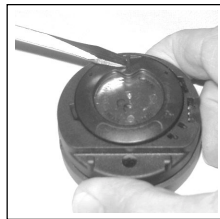

Fig. 64 - RING REMOVAL
- While applying steady inward pressure on the center of the Battery Hatch, rotate the Hatch Retaining Ring 10 degrees clockwise using a flat blade screwdriver (Fig. 64) or a Battery Hatch Tool.